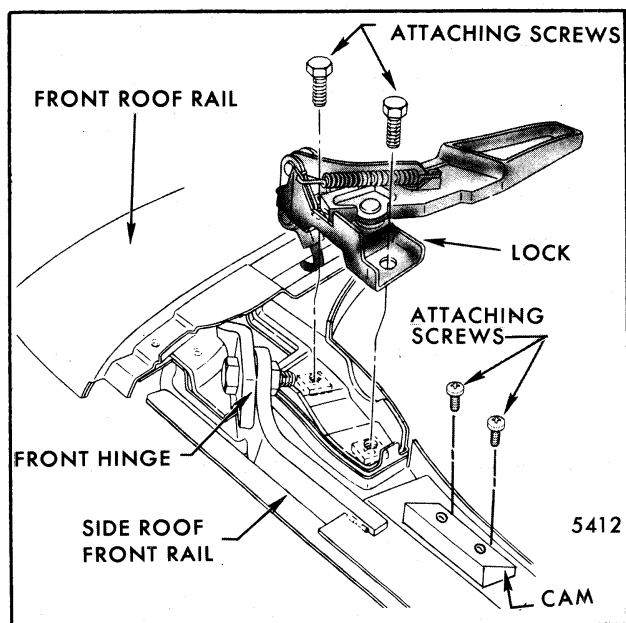

Fig. 8-95-Front Roof Rail Lock Attachment
2. With lock handle in open position as shown in Figure 8-95, detach spring, remove lock attaching screws and remove lock.